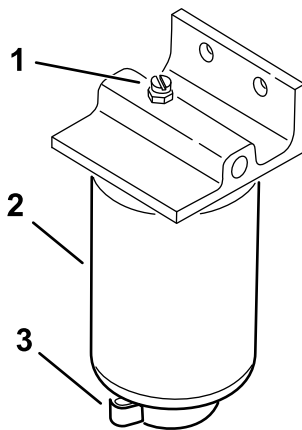

**Figure 35**
1. Close the fuel shutoff valve (Figure 35) below the fuel tank.